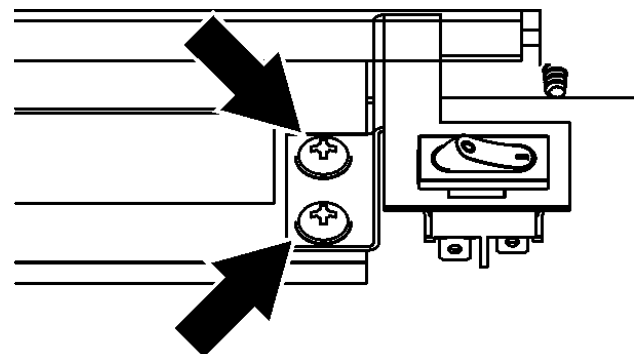

Figure 39. On/Off switch removal
9. Remove the two screws that hold the On/Off switch bracket to the front of the gas valve bracket (See figure 39).